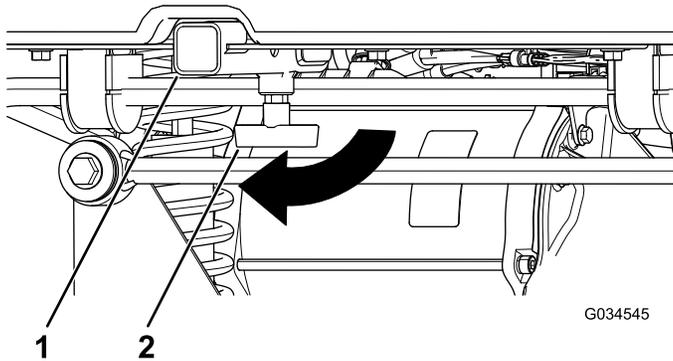

Figure 15
1. Loosen the “T” handle by rotating it clockwise (Figure 15).
2. Insert your accessory into the receiver until the holes align (Figure 15).